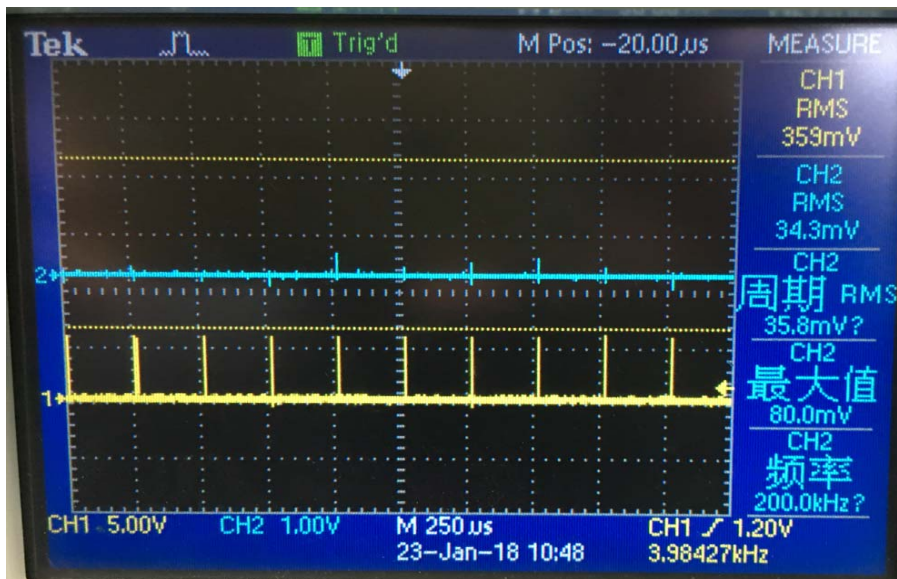

Fig1.1.1b The oscilloscope display of initial state
1.1.1b CH1 is 0V, and CH2 is 0.0343V, See Fig1.1.1b.